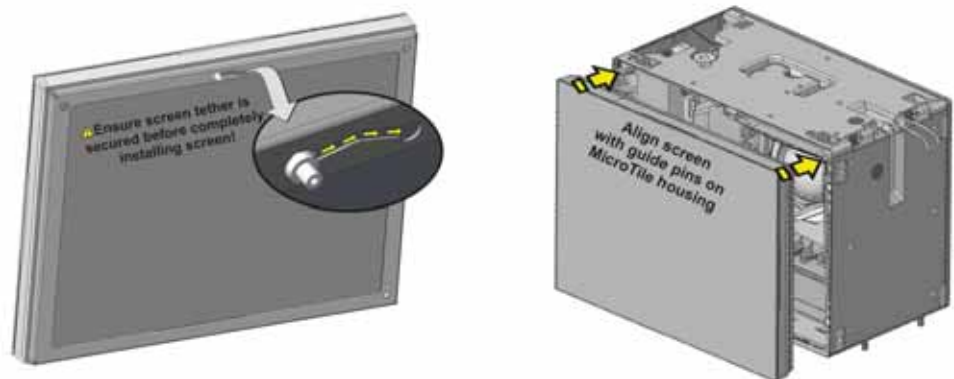

Figure 2-13 Screen Installation
1. Pull the screen tether out of the top of the tile housing and hook it into the locking latch on the screen (**Figure 2-13**). The tether ensures the screen does not fall if subjected to excessive force/vibrations.